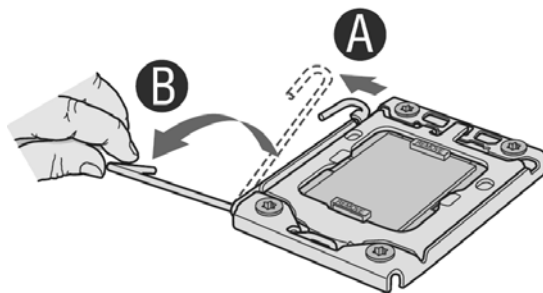

Figure 13. Opening the Processor Socket Lever
5. Locate the processor socket, push the lever handle down and away from the socket to release it (Step “A” in Figure 13), and rotate the lever open all the way (Step “B” in Figure 13).